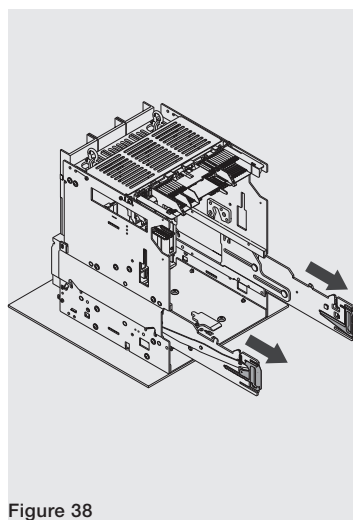

Figure 38
2. Extract the guides of the fixed part using the appropriate levers. See Figure 38.